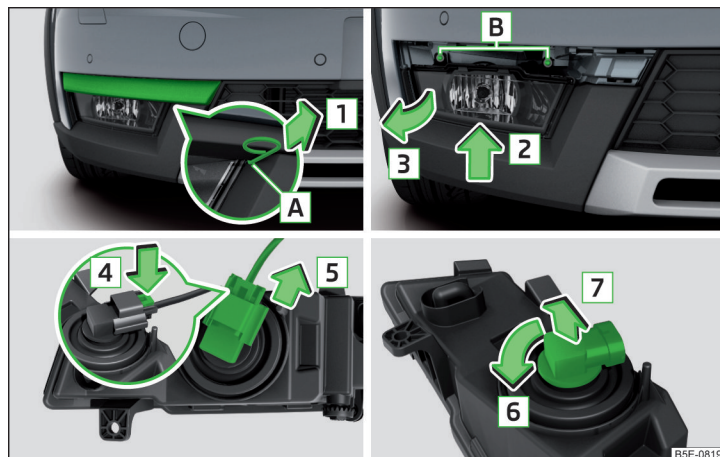

Fig. 359 Remove the fog lamp / bulb change - variant 2
» Fig. 359.
- › Fig. 359 and tighten.